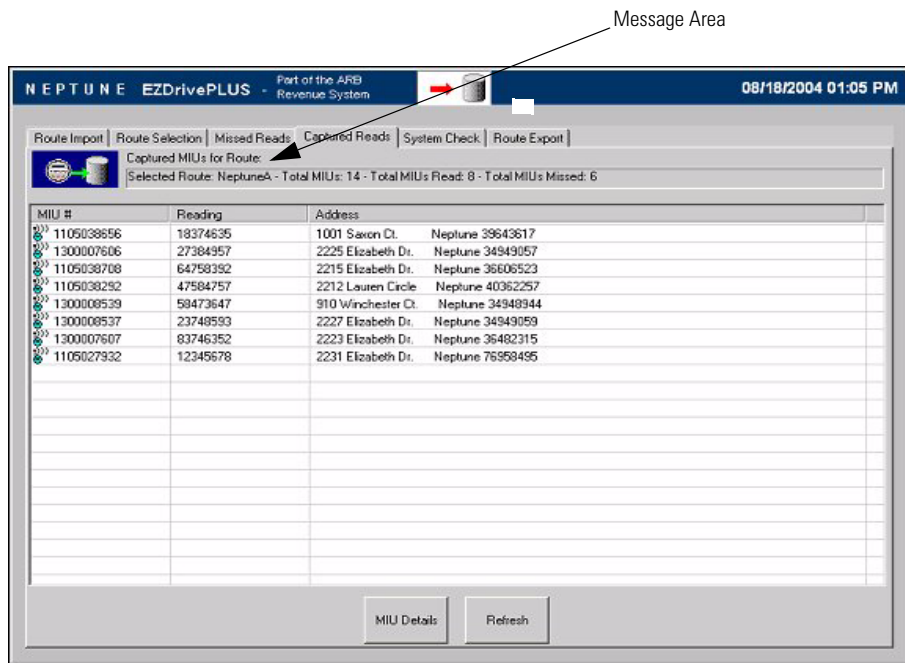

Figure 4.11 Captured Reads Screen Message Area
- 3 Select the Missed Reads or Captured Reads screen. (See Figure 4.11)